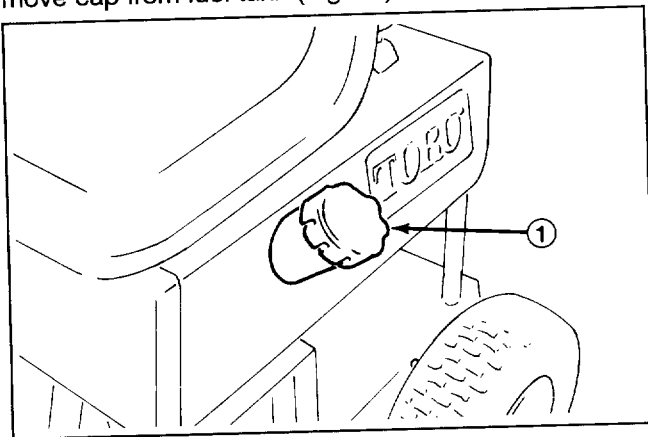

Figure 12
1. Clean around fuel tank cap so foreign matter cannot enter filler hole when cap is removed. Next, remove cap from fuel tank (Fig. 12).